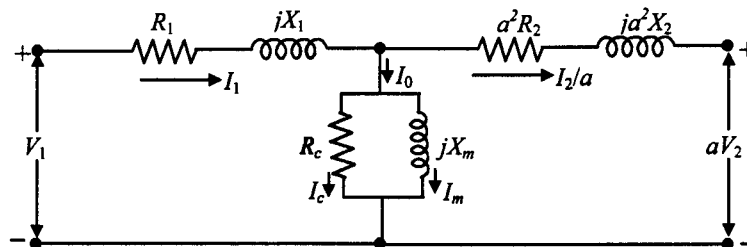

Fig. 1. Transformer equivalent circuit referred to the primary.
- 20 1. (a) The parameters of the equivalent circuit of the 150-kVA, 2,400-V/240-V transformer shown in Fig. 1 are $R_1=0.2 \Omega$, $R_2=0.002 \Omega$, $X_1=0.45 \Omega$, $X_2=0.0045 \Omega$, $R_c=10 \text{ k}\Omega$ and $X_m=1.55 \text{ k}\Omega$. This equivalent circuit is referred to the primary. Determine the